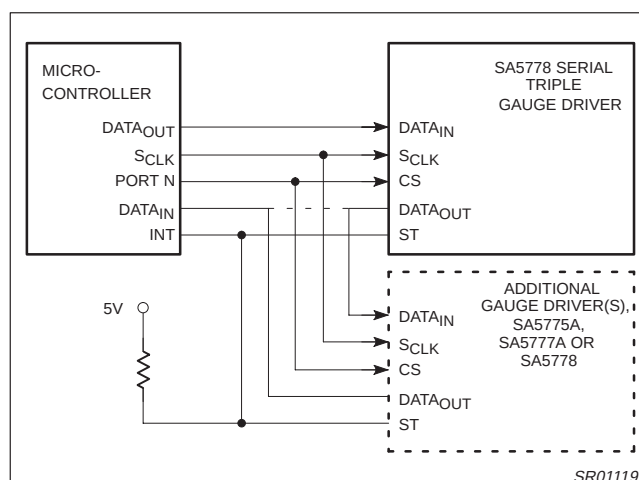
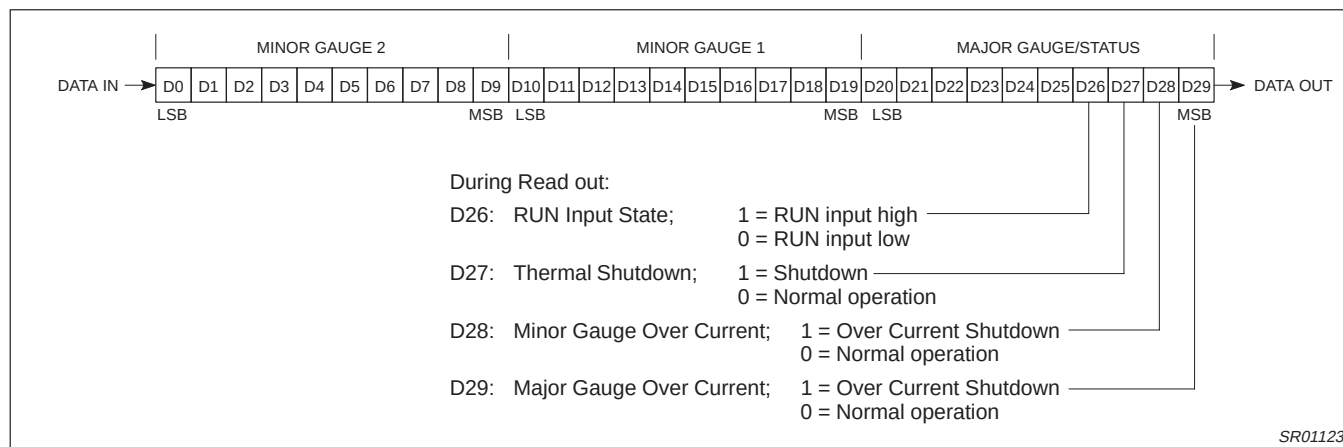

Figure 4. Serial Communications Between STGD, Microcontroller and Other Gauge Drivers
Figure 11. Internal Shift Register
Figure 4 demonstrates the connections between the STGD, the microcontroller, and optionally additional gauge drivers such as the SGD and DGD. With an active high on the chip select input (CS), data is shifted into the STGD through $DATA_{IN}$ on the rising edge of S_{CLK} . Several gauge drivers may be wired in series using a common chip select and clock line, when more than three gauges are needed. The $DATA_{OUT}$ pins are cascaded to the $DATA_{IN}$ pins of the following gauge drivers. Status information can be returned to the microcontroller via the ST pins of each gauge driver. These are open-drain, active low outputs, which may be wire OR'ed together to signal that a fault, such as a thermal shut down, has occurred within one of the gauge drivers. This pin may be connected to a microcontroller port pin for polling in software, or may be connected to an external interrupt input to cause entry into an interrupt service routine. The STGD, may also pass status information back to the microcontroller serially. The rising edge of chip select loads status information into the shift register for the first four bits that will be shifted out of the STGD by the shift clock. Figure 11 shows the data bits within the shift register. A low on the ST pin signals that one or more status bits have been set in the status register. A high indicates all status bits are reset. The status output bits include minor gauge over current, major gauge over current, thermal shutdown and RUN. Gauge data is captured in latches by the falling edge of the chip select.
Figure 10 demonstrates the serial interface timing referenced in the AC specifications. Figure 11 shows the order of information transfer through the serial interface. On a low to high transition of the CS pin, status information replaces the four most significant bits of data in the shift register and are the first bits shifted out. Output data is changed on the falling edge of S_{CLK} , while input data is captured on the rising edge of S_{CLK} . Major gauge data is loaded first, starting with the most significant bit, followed by minor gauge 1 data then minor gauge 2 data.